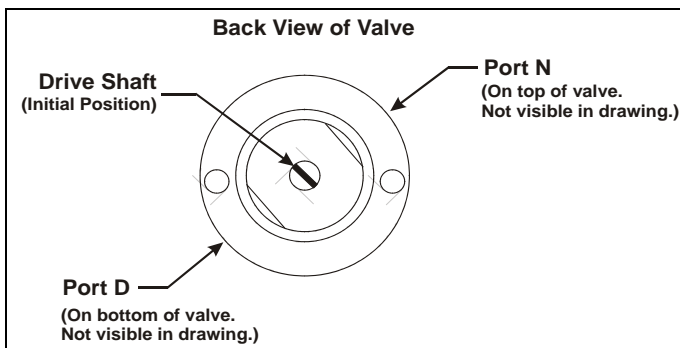

Figure 5-25. Prep Syringe Valve Drive Shaft Initial Position
4. Check the back of the new prep syringe valve (P/N 054243). The valve drive shaft should be perpendicular to valve ports N and D (see Figure 5-25).